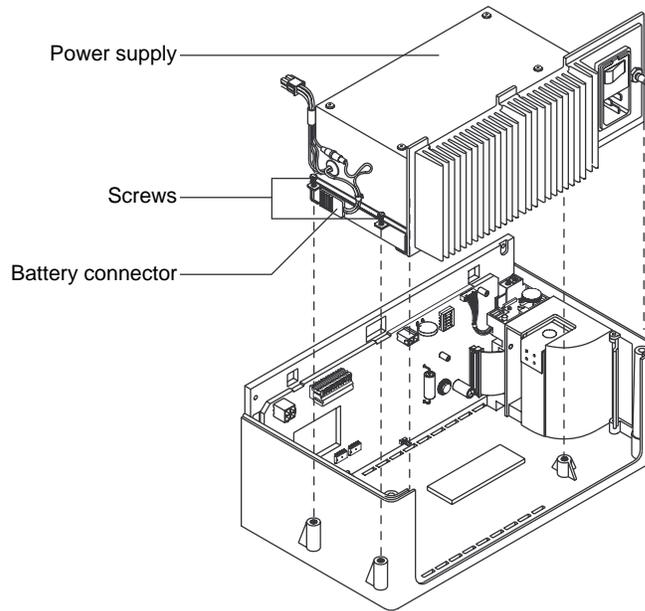

Figure 6-13: Removing Power Supply
1. Loosen the three power supply captive screws as indicated in Figure 6-13.
1. Remove the three power supply screws as indicated in Figure 6-13.
12. Replace the power supply in the N-3200 by reattaching the three captive screws (Figure 6-13).